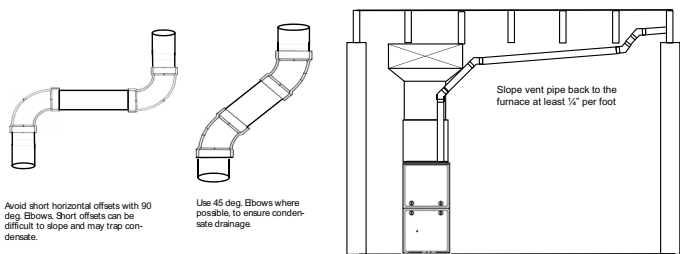

Fig. 51 – Near Furnace Vent Connections
Offsets in the vertical portion of the vent pipe should be made with 45 deg. elbows instead of 90 deg. elbows. Short horizontal runs of vent pipe are difficult to pitch correctly and may trap water in the vent pipe, see Fig. 51.
3. Tighten the clamp around the vent elbow. Torque the clamp to 15 lb-in, see Fig. 51-Fig. 56.